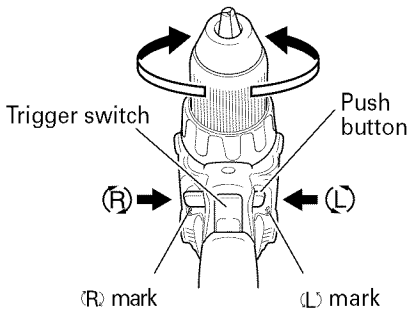

Fig. 8
The bit rotates clockwise (viewed from the rear side) by pushing the R-side of the push button. The L-side of the push button is pushed to turn the bit counterclockwise. (See Fig. 8). (The (R) and (L) marks are engraved on the body.)